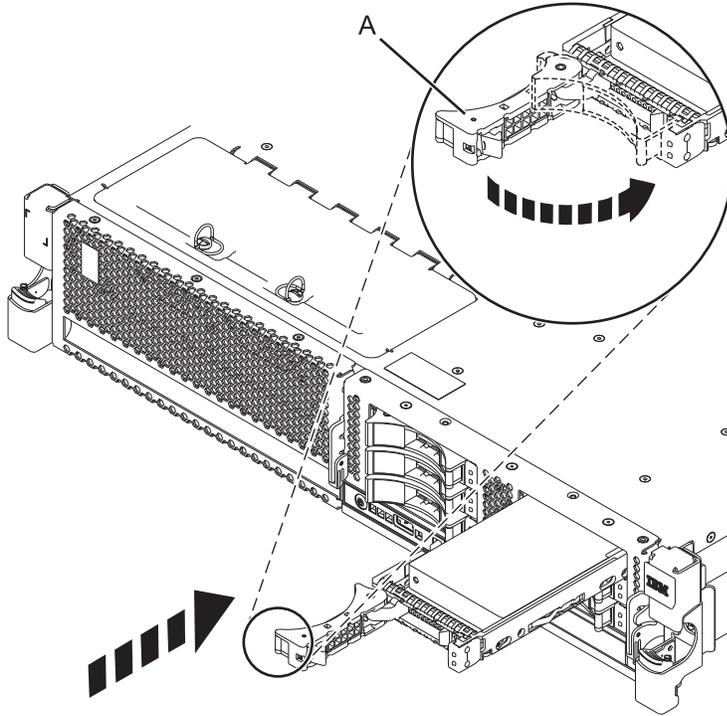

Figure 5. Installing the disk drive in the 8231-E2B, 8231-E1C, or 8231-E2C
- Slide the disk drive all the way into the system or expansion unit, and push the disk drive handle (A) in until it locks, as shown in Figure 5 on page 17. The service indicator on the disk drive turns on.